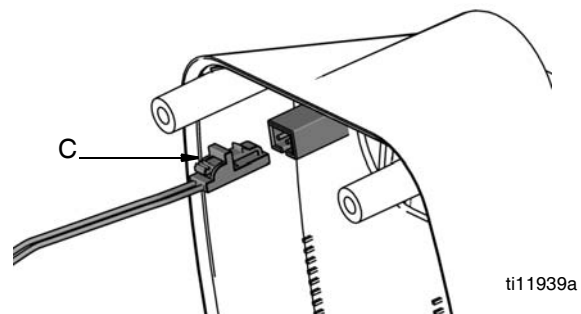

FIG. 33
5. Unsnap solenoid lead (C) (FIG. 33).